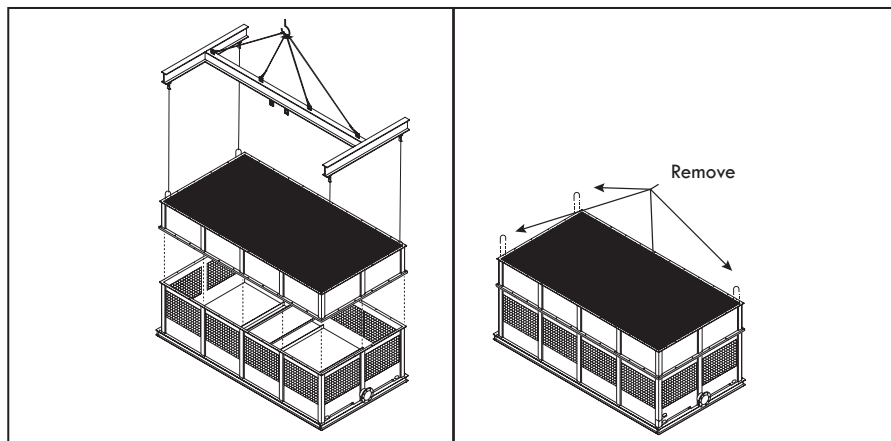

Figure A-49: Lower body section installation for an RTG-D & RTG-E models.
- H. **Only if your Tower is an RTG-D or RTG-E model:** It includes an additional part of body section (Lower Body section). Place Lower Body section on top of basin section, then bolt down and secure the horizontal flanges with the stainless steel nut and bolt sets supplied by REYMSA (see figure A-49).
- I. After the Lower Body section has been set in place, remove the U-bolts located on the flange before installing the Upper Body section (see Figure A-49).